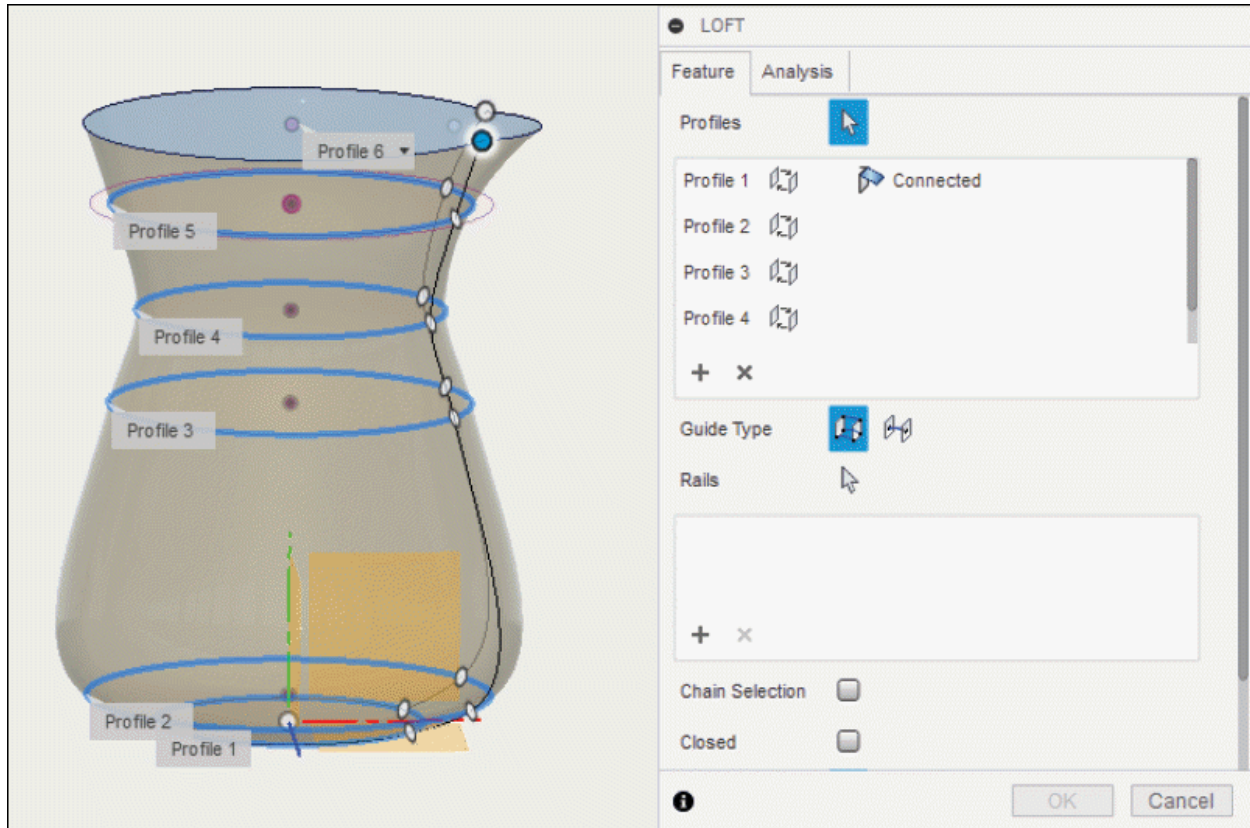

Figure-84. Creating loft feature of jug
- You need to select all the sketch from bottom to top in **Profiles** section of **LOFT** dialog box; refer to Figure-84.